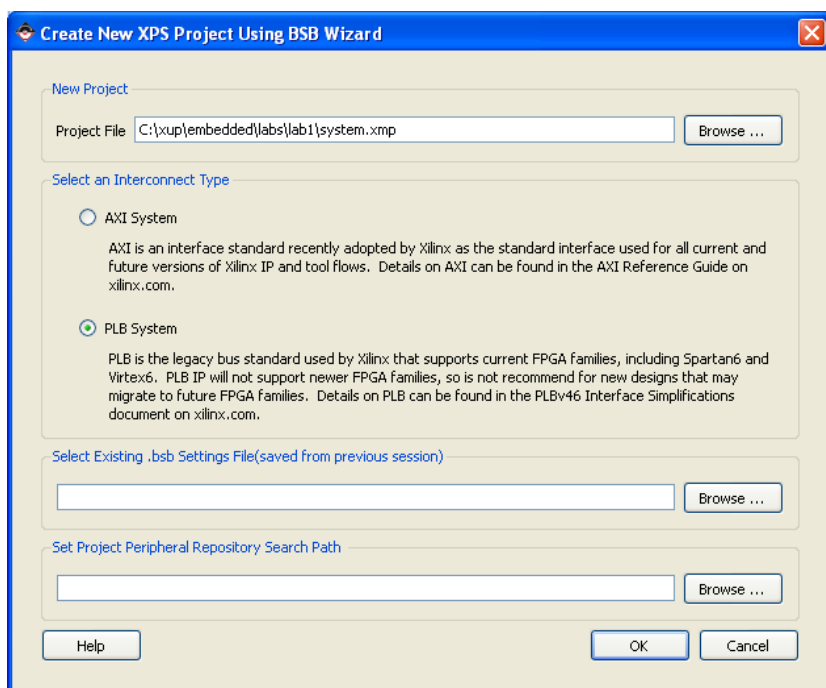

Figure 4. Assigning Project Directory
- 1-1-3. Browse to **D:** directory, create a new folder called **lab1** and select it, and click **Open** followed by click **Save (Figure 4)**. Select the **PLB System** option and click **OK**.